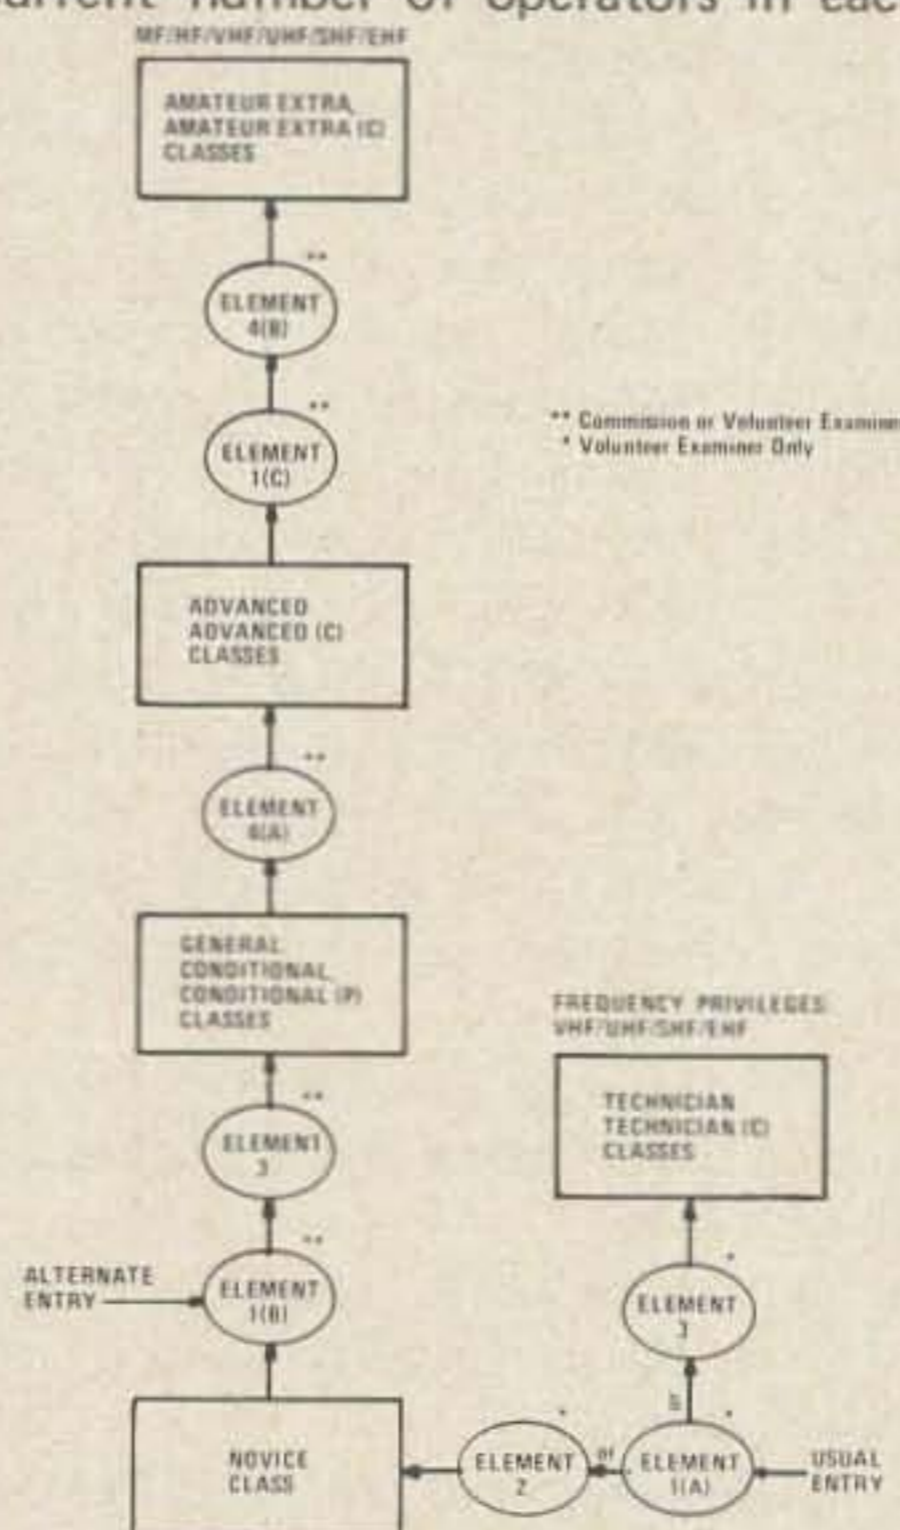

Fig. 1. Present structure of operator license classes, examination elements and frequency privileges.
5. The present operator license structure is shown in Figure 1. For all intents and purposes there are ten classes of operator licenses available in five ascending levels of operator privileges. Qualification for an operator license is established by means of the various examination elements shown in Figure 1. These may be administered either by a Commission examiner or by a volunteer examiner through the mail examination system. The Amateur Extra (C) Class, the Advanced (C) Class, and the Conditional (P) Class licenses are issued to physically disabled applicants qualifying on the basis of a mail examination